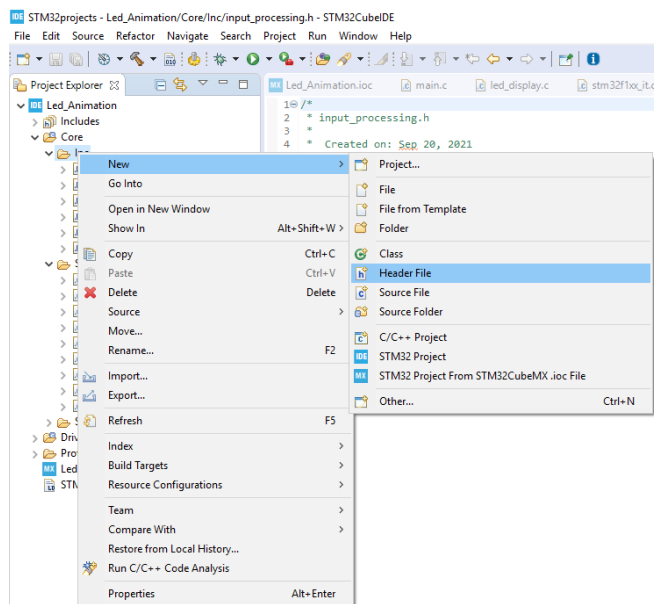

Figure 1.10: Step 3: Create a C header file for input processing
Step 3,4 (Figure 1.10, 1.11): Do the same for the C header file in the folder **Inc**.